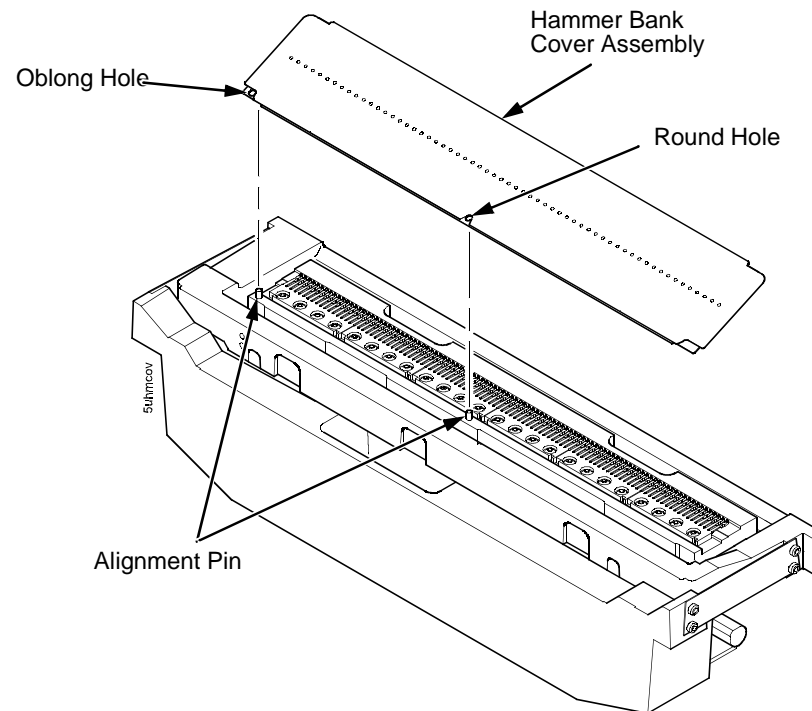

Figure 16. This figure shows how to install the new one-piece hammer bank cover assembly on single hammer bank printers.
Lift the thick plate of the hammer bank cover assembly at one end, and peel the cover away from hammer bank magnets. (See Figure 16, page 355.)
- a. With the thick plate facing the hammer bank, hold the hammer bank cover assembly at a slight angle and engage the bottom edge on the alignment pins. First engage the center (round) hole, then the left (oblong) hole, to ensure that the cover lies flat on the hammer bank. (See Figure 16, page 355.)